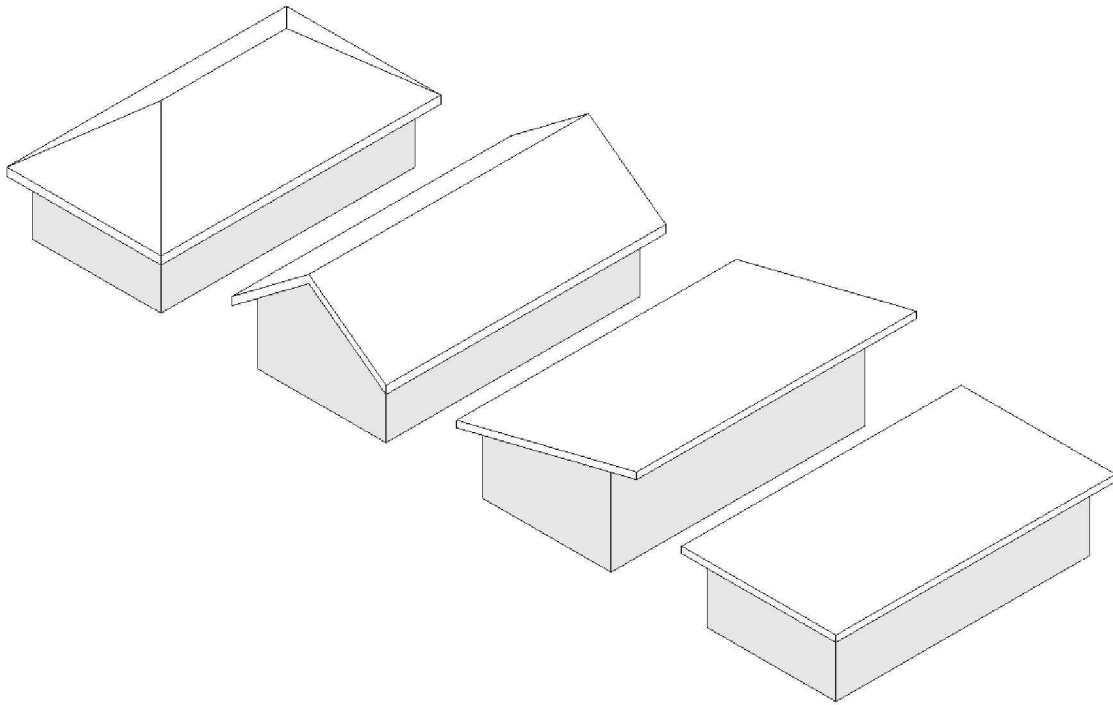

FIGURE 6-1.14 Default 3D view – flat roof
55. Also, take a look at the **Default 3D view** (Figure 6-1.14).